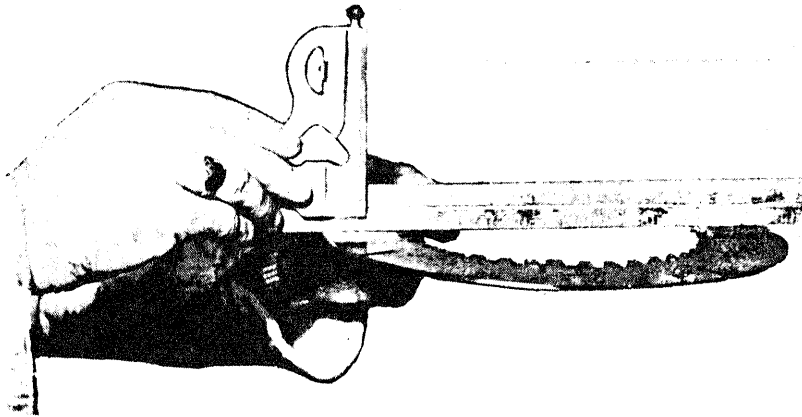

Figure 27
**NOTE:** It is unlikely that the clutch discs and separator plates will have to be replaced because of wear. Overheating due to slipping or lack of cooling oil will cause most damage to the discs and separator plates. Over heating causes both parts to warp which causes clutch drag. The clutch discs are flat. The separators are hardened steel with a slight dish built into them as shown in Figure 27.